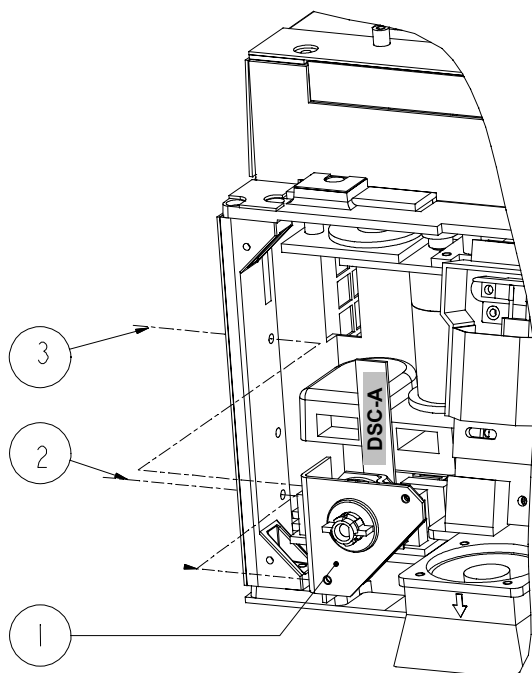

Figure 10: Replacement DSC-A assembly
4. Loosen the 2 screws, item 2 and 3, Figure 10, page 29.
5. Remove DSC-A assembly, item 1, Figure 10, page 29.